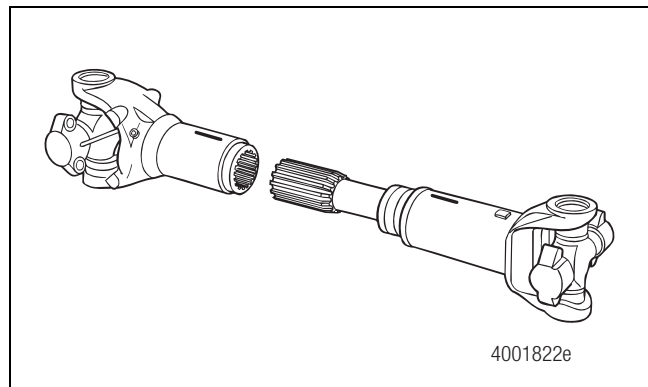

Figure 4.14
4. Pull the slip yoke and slip shaft sections apart. Figure 4.14.